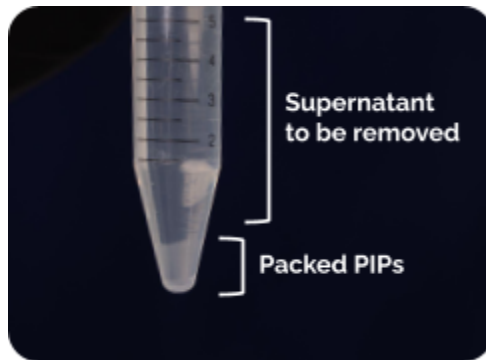

Figure 7. Packed PIPs after centrifuging
4. Gently mix each tube by tapping the bottom to break-up the pellet and invert 10 times. Centrifuge the tubes for 2 minutes at 1000 x g (use ~70-80% of the maximum breaking speed) on a centrifuge with a swinging bucket rotor (e.g. ST40) to pack the PIPs (Figure 7).